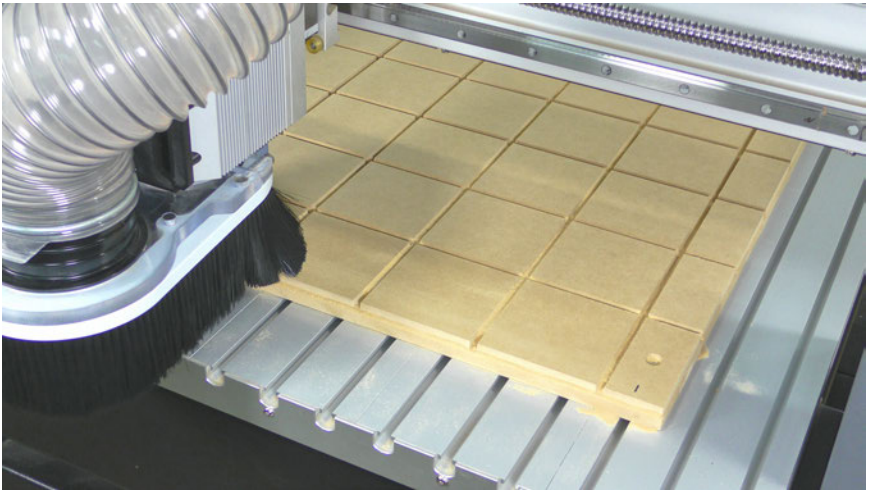

Fig 13d - Spoilboard Relief Cut
- 13.8. Run the Relief Groove G-code program. (Fig 13d)